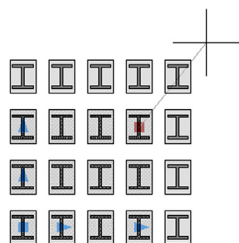

FIGURE 8.14
- Step 4.** You have now successfully created the basic rectangular array. You still need to define the exact number of rows and columns, however, as well as the distance between them, as this current array is rather arbitrary. You can do this either via command line, dynamically (using grips), or via the Ribbon. Figure 8.14 shows how you can pull the items diagonally in a dynamic fashion using the center grip. You can also do this via the outer arrow grips. This dynamic method is not really appropriate for setting distances between the columns, which are random values for now, but it does make creating the pattern very easy.